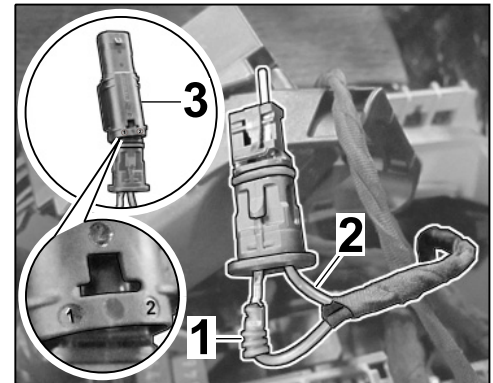

Figure 26
2.5.2 Connect CAN lines with pin contact/single-wire seal (wire harness for engine noise control unit/pulse sender) in the pin connector socket as follows (⇒ *Figure 26*):